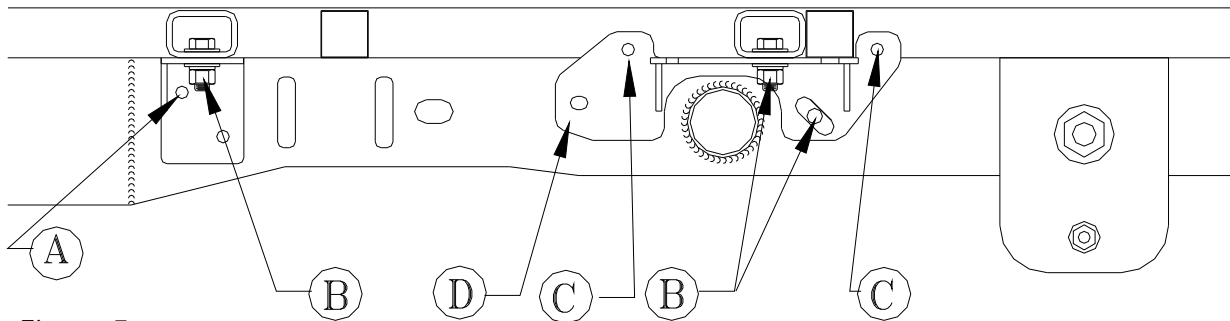

Figure 5
1. Position the Rear Bracket on the side of the frame, install the 5/8" x 1-1/2" bolt and flat washer in the predrilled slotted hole, secure with lock washer and nut, finger tight. See Figure 5(B), Pg. 13.
2. The Post Holder will be positioned above the rear most slotted hole on the Mounting Bracket flange. See Figure 1, Pg. 12. Install the 5/8" bolt and flat washer through the Post Holder, securing the Post Holder to the Mounting Bracket flange using another flat washer, lock washer and nut. See Figure 5(B), Pg. 13.
4. Using the predrilled front hole as a guide, drill a 1/2" hole and secure with 1/2" x 1-1/2" bolt, lock washer and nut. See Figure 5(D), Pg. 13.